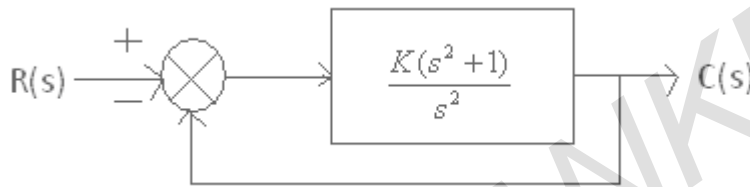

Figure 11:
2. Sketch the root locus for the unity feed back system shown below figure 11: [16]